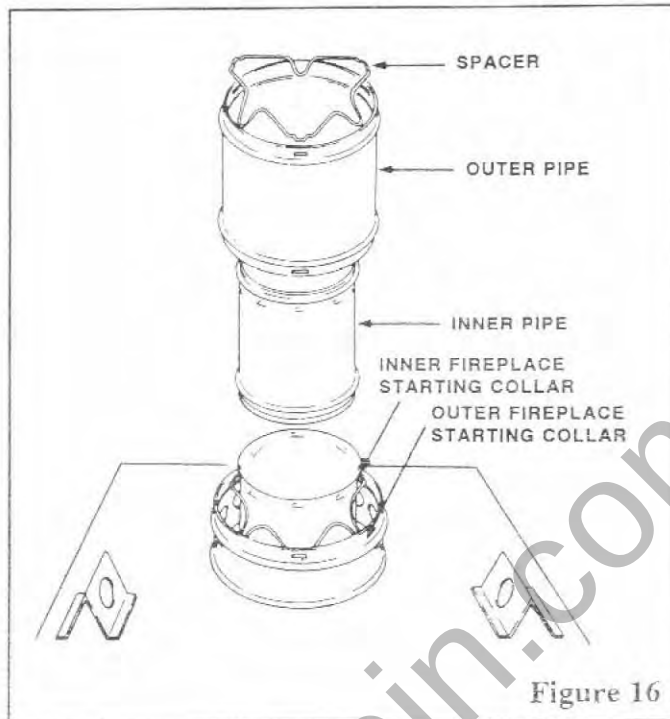

Figure 16
STEP 1: When installing the chimney directly on the fireplace, install the inner pipe section by fitting the male end into the inner fireplace starting collar. Make sure the male end is fully inserted to lock into the lances as shown in Figure 16.